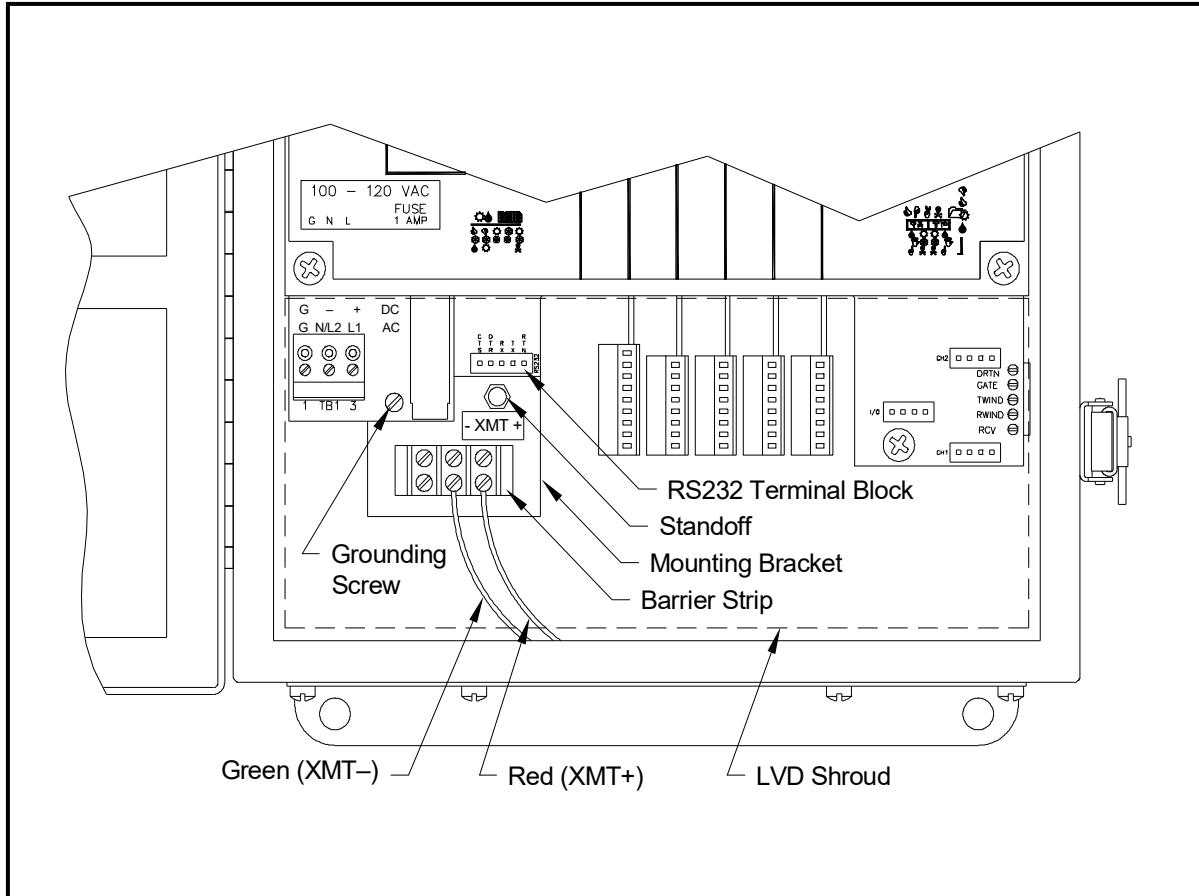

Figure 9: Interface Converter Mounting
A special bracket containing the serial interface converter and a three-terminal barrier strip is mounted inside the Model GC868, just below the RS232 terminal block (see *Figure 9* below). The standard **RS232** terminal block is wired to the input of the serial interface converter, and the RS485 output of the serial interface converter is wired to the barrier strip.
Standard factory wiring of the RS485 serial interface is configured for point-to-point wiring. That is, a single Model GC868 may be wired directly to a single personal computer. To connect the RS485 serial interface, refer to *Figure 9* and complete the following steps:
3. Remove the serial interface converter *mounting bracket* by removing the standoff located just below the **RS232** terminal block and the grounding screw to its left (see *Figure 9*).